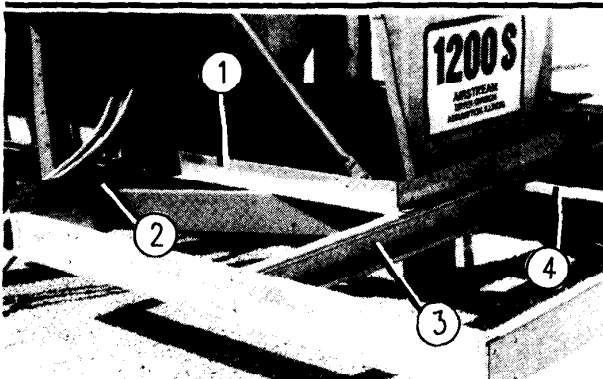

FIG. 4 - CONNECTING RIGHT-HAND FLOOR SUPPORT ANGLE
- H. Use two flat-head allen capscrews and connect the center floor support (No. 4, Fig. 4, D61-0062) to the front and main support channels.
- A. Use two flat-head allen capscrews and connect the right-hand floor support angle (No. 1, Fig. 4, D61-0050) to the rear angle tie and main support channel.